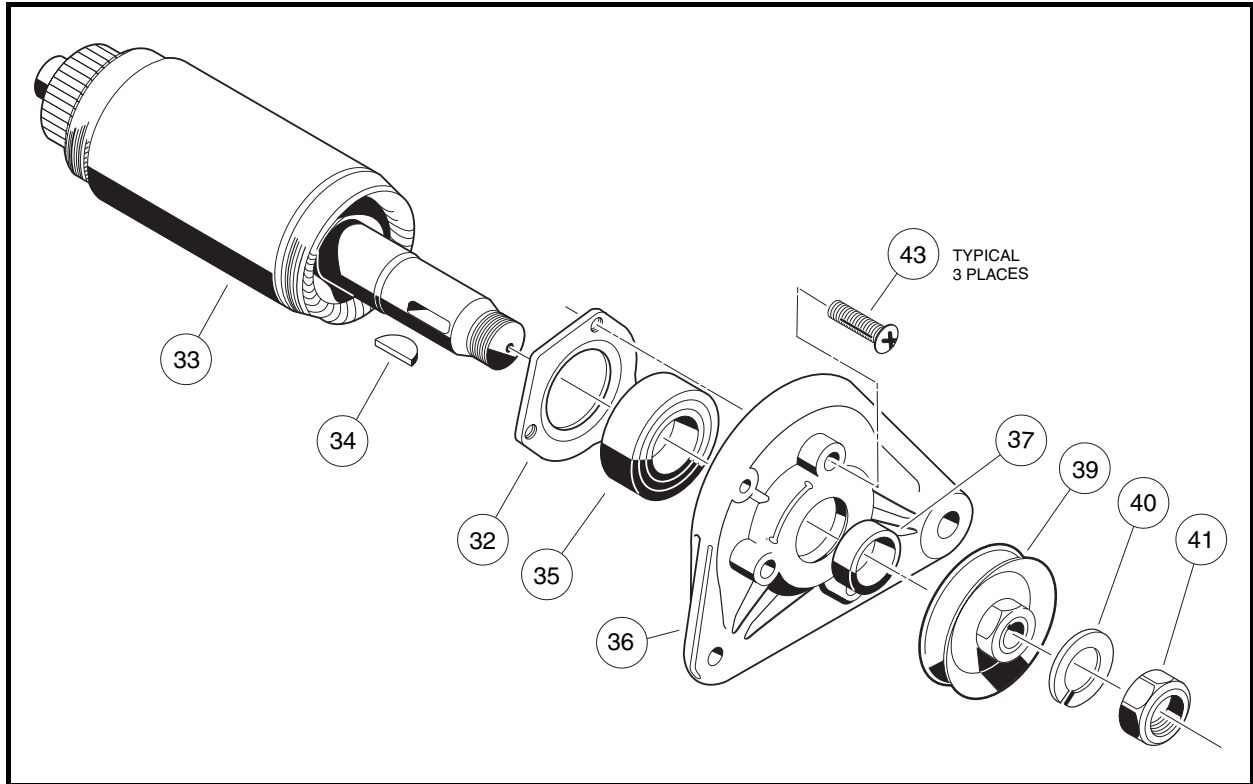
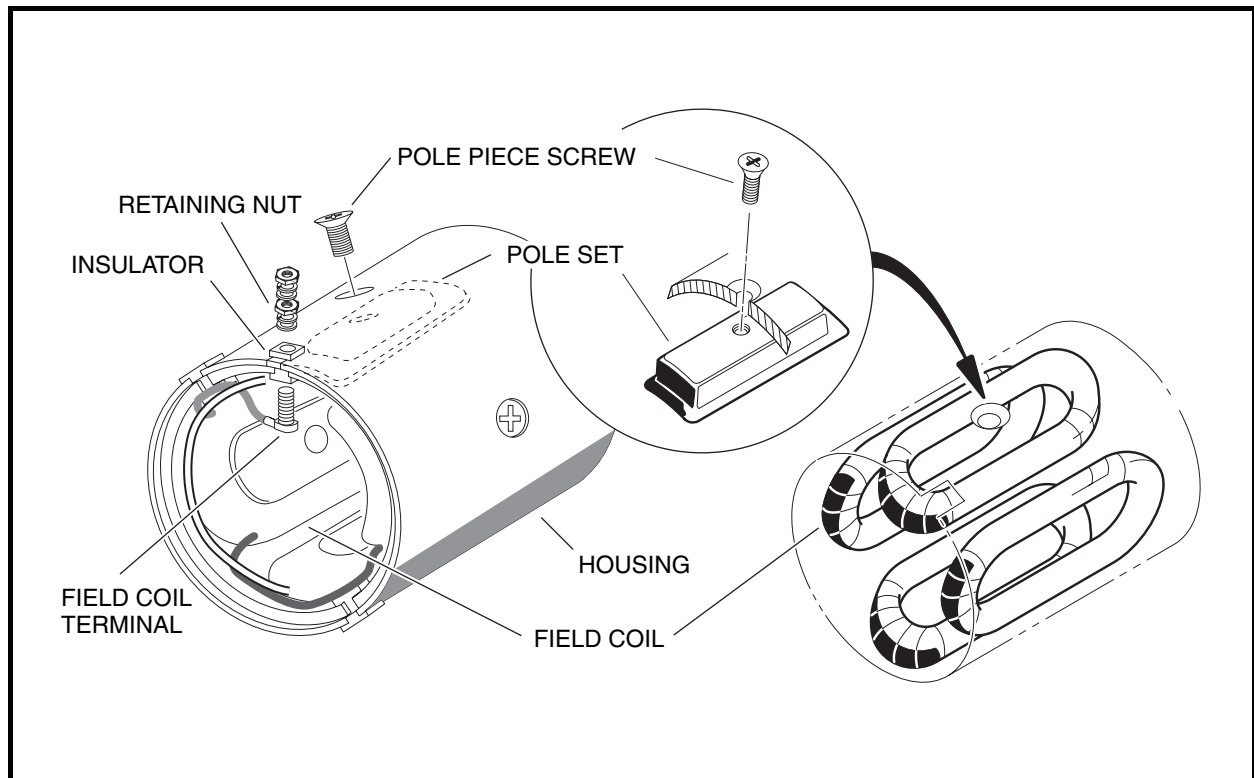

Figure 12-7 Armature and Output End Cover Assembly
Figure 12-10 Field Coil Assembly
3. To separate armature (33) from output end cover (36), remove nut (41), lock washer (40), pulley (39), shaft key (34), spacer (37), and bearing retainer screws (43) **(Figure 12-7, Page 12-5)**.
3. Slide the bearing retainer (32) off of the output end of the shaft (**Figure 12-7, Page 12-5**).
1. Remove the retaining nut from each field coil terminal and slide the insulator out of the slots in the housing. Remove the four pole piece screws from the housing. Remove the four pole pieces from inside the housing. Remove the field coils from the inside of the housing (**Figure 12-10, Page 12-7**). **See following NOTE.**
NOTE: Do not remove the insulators or the field coils unless an electrical test indicates that it is necessary (**Figure 12-10, Page 12-7**). See **Test Procedure 8, Section 11, Page 11-20**.
2. After the insulators are seated in the slots, install the threaded terminals through the wire connectors and then through the insulators. Install a flat washer, lock washer and nut onto each threaded terminal on the outside of the housing. Tighten nuts to 47.5 in-lb (5.4 N·m) (**Figure 12-10, Page 12-7**).
3. Install the four pole pieces into the housing. Use the four screws to secure pole pieces to the inside of the housing to retain the field wires. Tighten screws to 9 ft-lb (12.2 N·m) (**Figure 12-10, Page 12-7**).
4. Slide the bearing retainer onto the output end of the armature shaft (33) so that it will hold the outside of the bearing (35) only.
5. Press a new ball bearing (35) onto the output end of the armature (**Figure 12-7, Page 12-5**). Press a new ball bearing onto the commutator end of the armature shaft. **See following CAUTION.**
6. Install the output end cover (36) onto the armature. Secure the bearing retainer (32) to the cover and tighten the screws (43) to 39 in-lb (4.4 N·m) (**Figure 12-7, Page 12-5**).
11. Slide the spacer (37) onto the end of the shaft. Insert the shaft key (34) into the shaft. Install the belt pulley (39) onto the shaft, and install the lock washer (40) and M14 nut (41). Tighten the nut to 28 ft-lb (38.0 N·m) (**Figure 12-7, Page 12-5**).